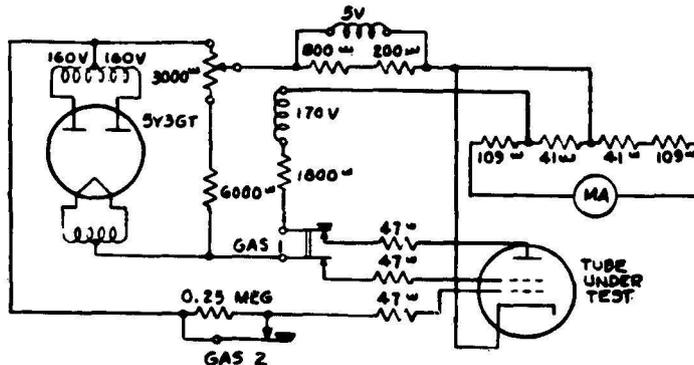

Fig. 6 - Gas Test Circuit
2.23 Gas current in a tube or grid leakage current due to poor grid to filament insulation may be detected by the insertion of a high resistance into the grid circuit of a tube under test as shown in Fig. 6. In this